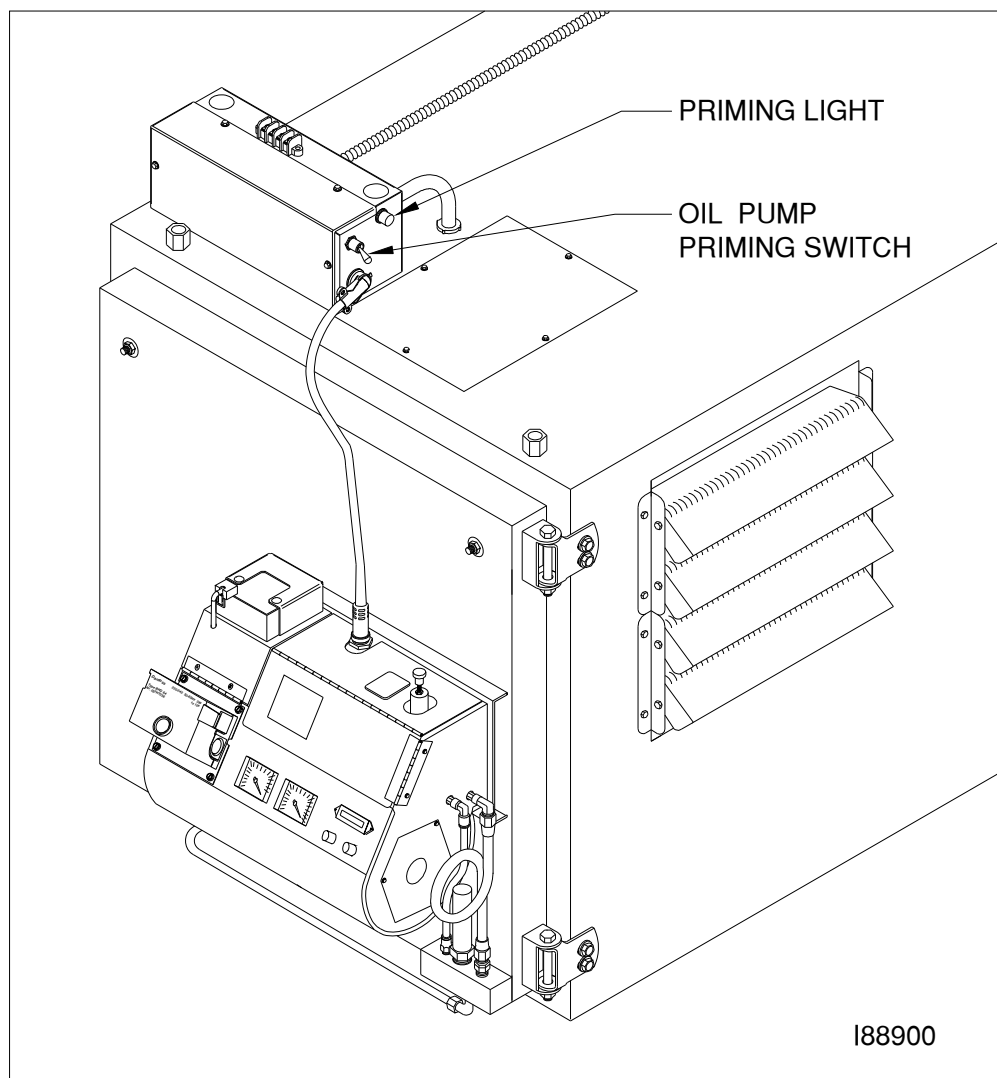

Figure 5B - Locating the Oil Pump Priming Switch
- a. Refer to Figure 5B to locate the priming switch.